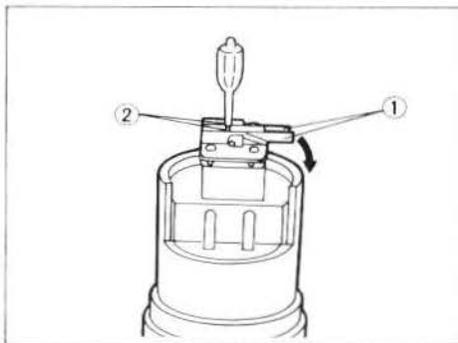

Fig. 18
2. Pressing down the spring levers ① in the direction of the ARROW, insert the pins ② of the Halogen bulb into the socket. (Fig. 18)